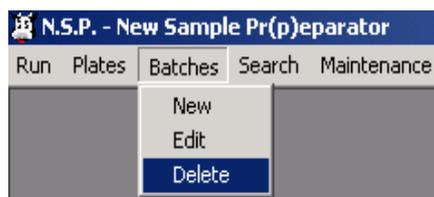

Fig. 6.3-1 : Delete a reagent batch
(1) Select “Delete” from the “Batches” menu (Fig 6.3-1).